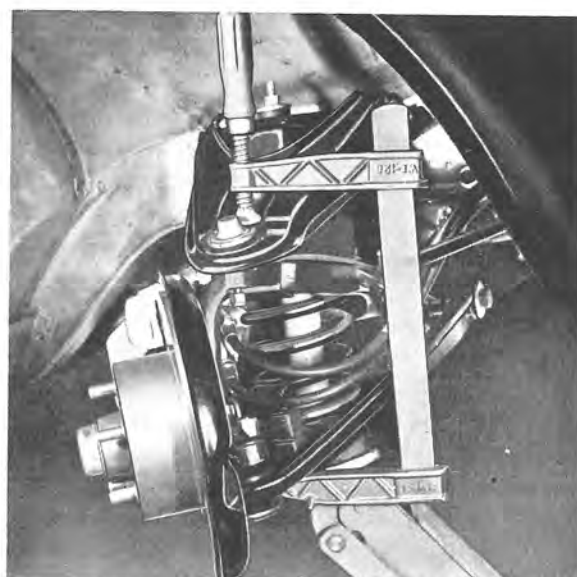

Fig. 6-24. Upper ball joint securely held by vice
2. Place the stub axle in position and tighten the ball joint nuts. If the ball joint twists, hold it firmly in position with a screw vice, see Fig. 6-24. Fit the steering rod on to the steering arm.
3. Turn down the control arm and tighten the nuts for the control arm shaft. Tighten the ball joint against the steering knuckle. If the pin rotates, hold it firmly with a screw vice, see Fig. 6-24.